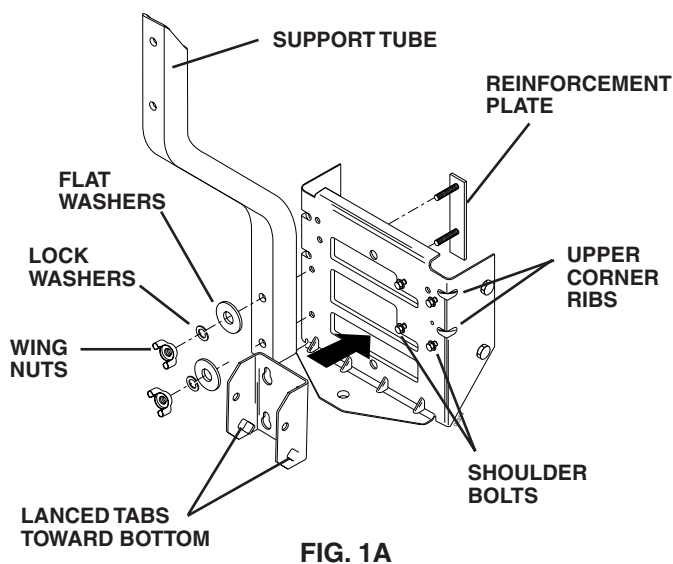

FIG. 1A
(See Figs. 1A, 1B & 1C)
NOTE: If your tractor already has four (4) shoulder bolts installed on the rear drawbar, simply hang the mounting bracket, lanced tabs towards bottom, on the bolts (See Fig. 1A).